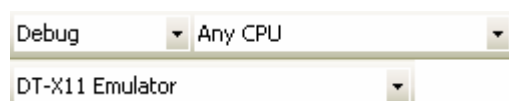

Figure 7.17
- Choose **Debug** in the Solution Configurations pull-down menu in Visual Studio 2008 or Visual Studio 2005 and **DT-X11 Emulator** in the target device pull-down menu. See Figure 7.17.